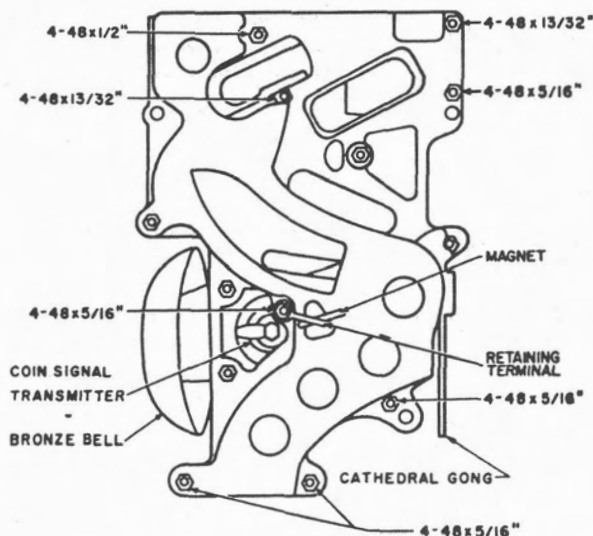

Figure 6. Coin chute.
3.3 Coin signals. The three channels of the coin chute are arranged so that nickels, dimes, and quarters are directed either to the top or bottom of the bell, or to the cathedral gong, mounted on the opposite side of the coin chute. A nickel strikes the bell once, at the bottom of the bell; a dime strikes the bell twice, once at the top and again at the bottom of the bell; a quarter strikes the cathedral gong once. These bell and gong signals are conveyed to the central office via the special transmitter mounted on the back of the coin chute (figure 6). A permanent magnet mounted adjacent to the quarter channel on the coin